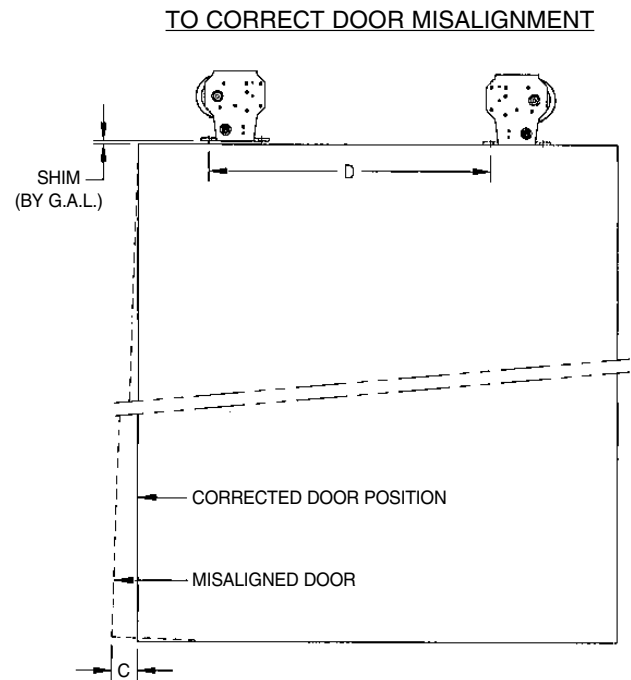

Figure 4: To correct door misalignment
1. If, after achieving the required dimension from the bottom of the door to the bottom of the sill slot, the door(s) is/are misaligned, it is best corrected by placing a shim between the hanger assembly and the top of the door (Figure 4).